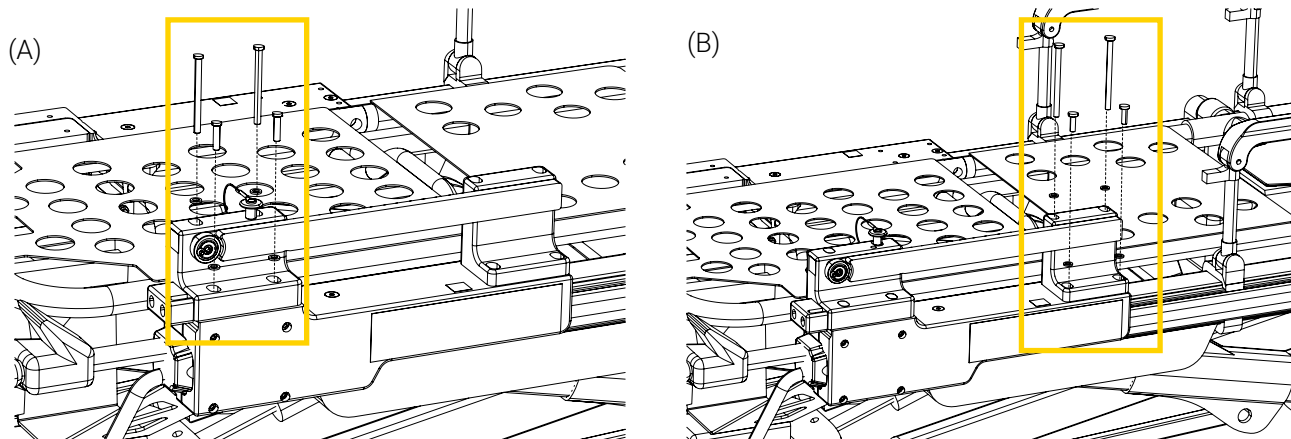

Figure 35: Installing the XTPA-PPXT Rail clamp block on the XTPA-PPXT Rail
3. Towards patient foot end of the rail (Figure 35 A), partially tighten:
- Two (2) ¼ - 20 x 3 in. socket head screws with two (2) washers using a ⅜ in. hex key
- Two (2) ¼ - 20 x 1 in. socket head screws with two (2) washers using a ⅜ in. hex key
4. Towards patient head end of the rail (Figure 35 B), partially tighten:
- Two (2) ¼ - 20 x 3.5 in. socket head screws with two (2) washers using a ⅜ in. hex key
- Two (2) ¼ - 20 x ¾ in. socket head screws with two (2) washers using a ⅜ in. hex key